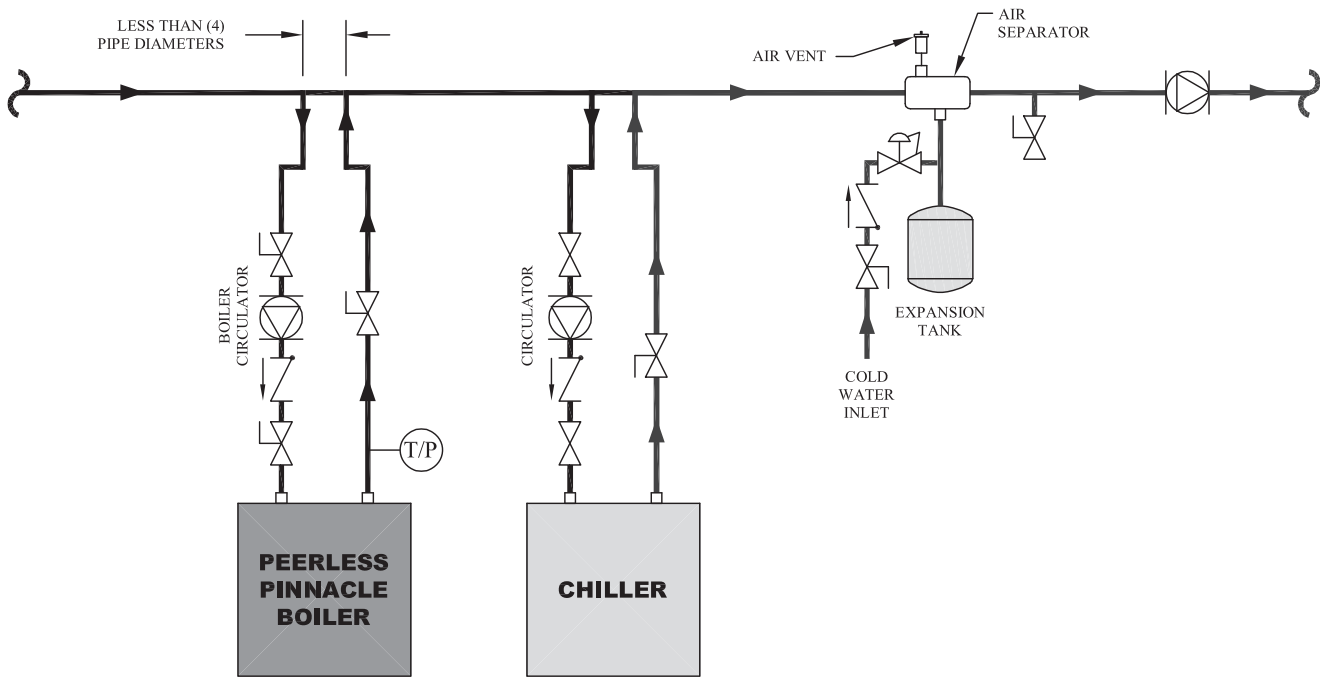

Figure 4.8: Boiler in conjunction with a Chilled Water System
- d) See figure 4.8 for recommended system piping.